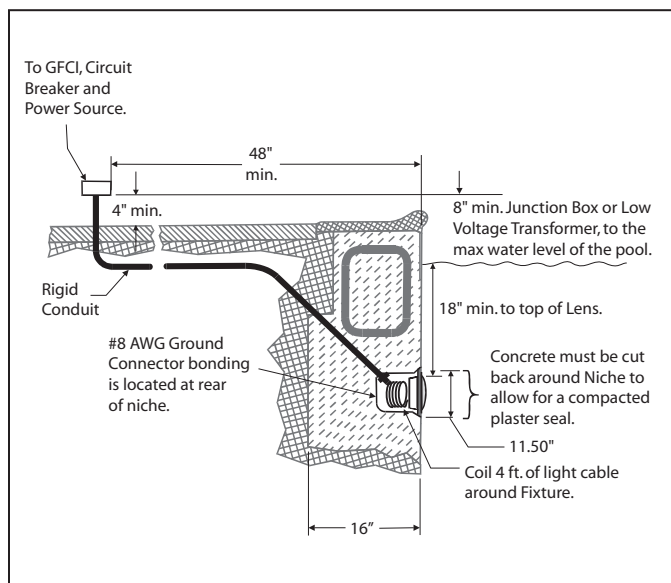

Figure 1. Jandy Digital Color Light Installation
| Figure 1. Jandy Digital Color Light Installation | 6 | Table 1. Jandy WaterColors Lights Sequence | 9 |
NOTE The electrician must complete preparatory steps before light fixture is installed. See Figure 1.
2. The junction box (or, for 12 volt models, the low voltage transformer) must be located at least eight (8) inches above water level, at least four (4) inches above ground level, and at least four (4) feet from the edge of the pool; see Figure 1.
3. The light fixture and all metal items within five (5) feet of the pool must be properly electrically bonded to a reliable point of grounding.
4. The wet niche must be properly installed so that the top edge of the underwater light's lens is at least 18 inches below the surface of the water in the pool; see Figure 1.
5. The wet niche must be properly electrically bonded and grounded via the No. 8 AWG ground connector located at the rear of the niche; see Figure 1.
1. Feed cord through conduit to junction box, leaving at least four (4) feet of cord at the light fixture to coil into the base of the light niche. See Figure 1. The four (4) feet of cord allows the light to be serviced after the pool is filled with water.
2. Cut the cord at the junction box, leaving at least six (6) inches of cord to make connections.
3. Strip six (6) inches of the outer cord jacket to expose the three insulated wires. *Be careful not to damage the insulation on the three (3) inner wires.*
4. Install strain relief over cord jacket and connect all three (3) wires to the corresponding circuit wires in the junction box. Install the junction box cover.
2. The junction box (or, for 12 volt models, the low voltage transformer) must be located at least eight (8) inches above water level, at least four (4) inches above ground level or pool deck level, and at least 48 inches from the edge of the pool or spa; see Figure 1.
4. The wet niche must be properly installed so that the top edge of the underwater light's lens is at least 18 inches below the surface of the water in the pool. See Figure 1.
- The wet niche must be properly electrically bonded and grounded via the No. 8 AWG ground connector located at the rear of the niche. See Figure 1.
- Leave at least four (4) feet of cord to coil around the light fixture or coiled into the base of the light niche. See Figure 1. This allows the light to be serviced after the pool is filled with water.
- Cut the cord at the Junction Box, leaving at least six (6) inches of cord to make connections.
- Strip six (6) inches of the outer cord jacket from the cord to expose the three insulated wires. *Be careful not to damage the insulation on the three (3) inner wires.*